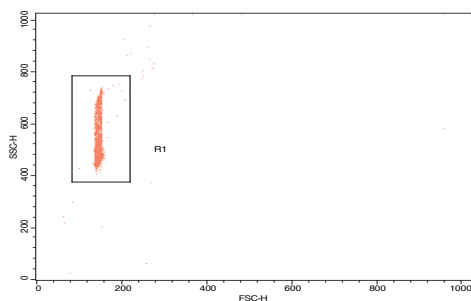

Figure 4
1. Gate on the singlet population(s) on a Forward Scatter vs. Side Scatter plot. (Figure 4)